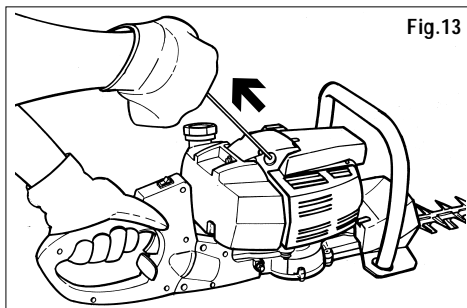

Fig. 13
- 7) Pull the starter grip completely as many as 3 times (fig. 13).
- 9) Pull the starter cable (fig. 13) until the engine starts.